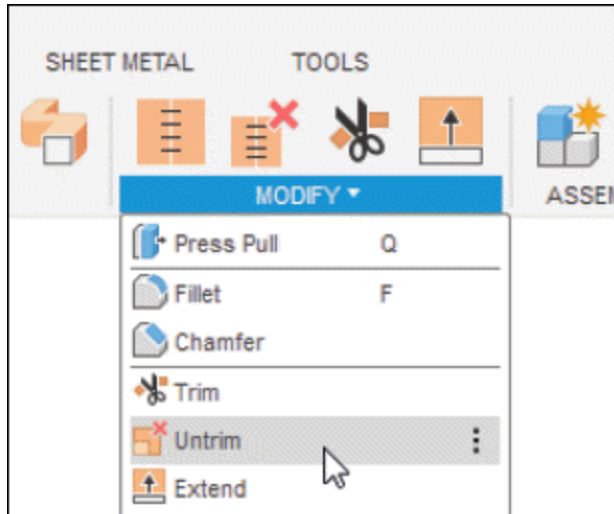
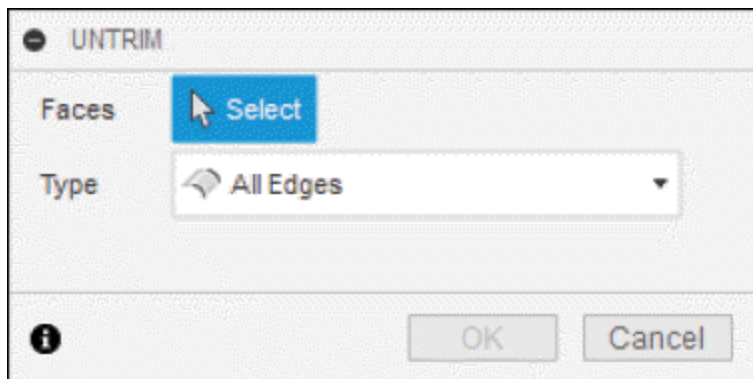

Figure-19. Untrim tool
Figure-20. UNTRIM dialog box
- Click on the **Untrim** tool of **MODIFY** drop-down from **Toolbar**; refer to Figure-19. The **UNTRIM** dialog box will be displayed; refer to Figure-20.